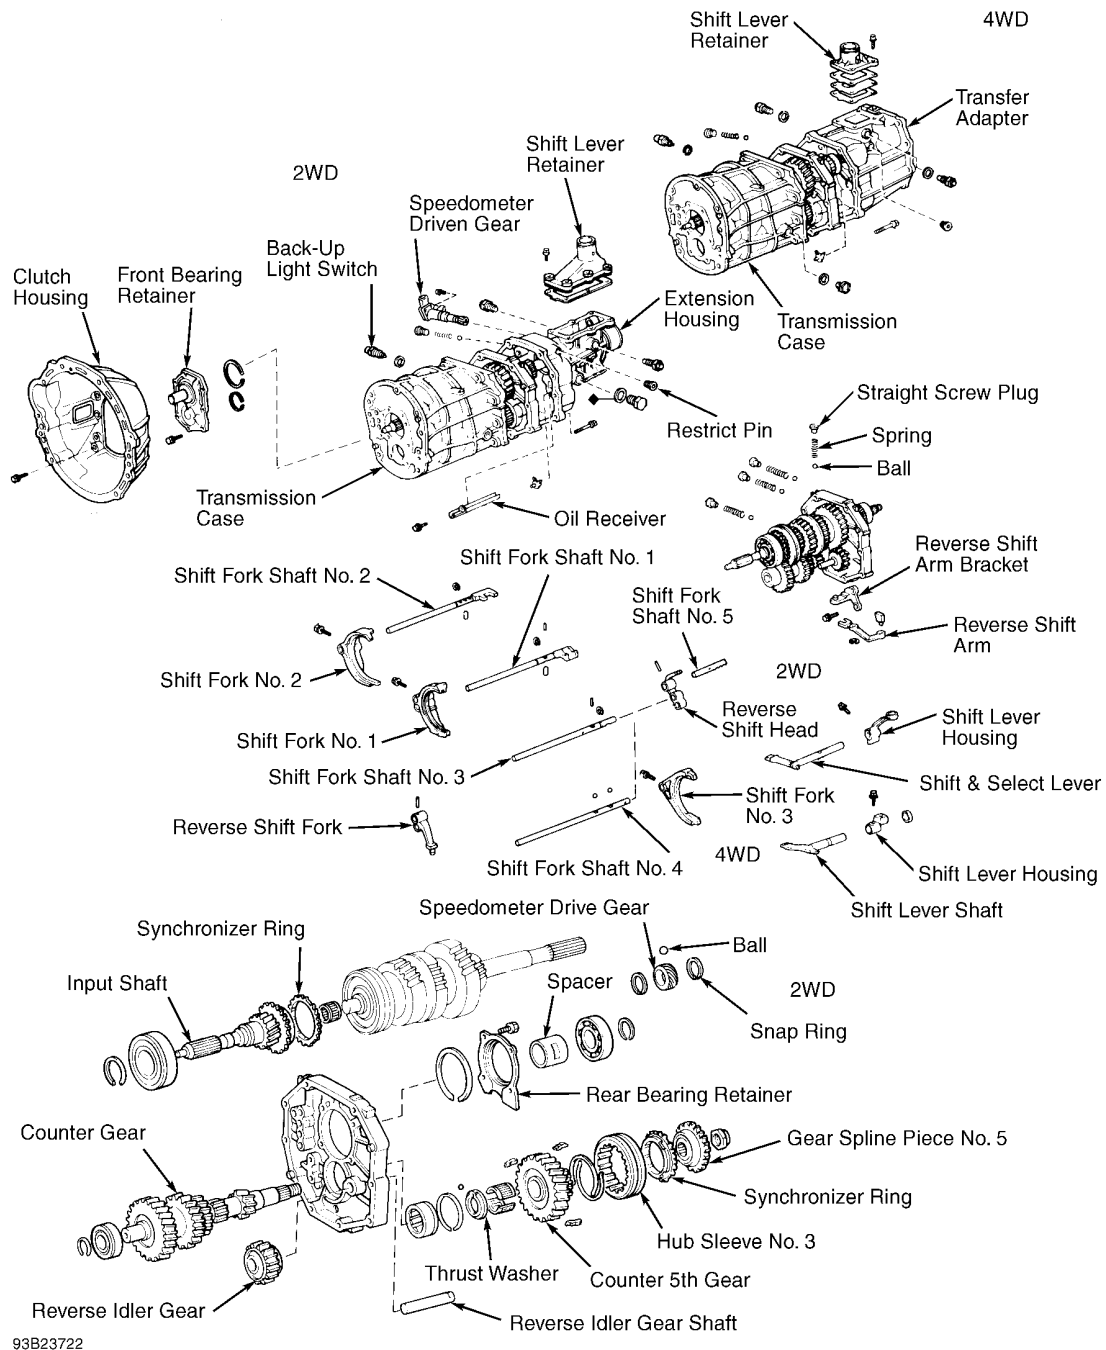

Fig. 2: Exploded View Of Transmission Assembly (1 of 2)
1. Remove back-up light switch and speedometer driven gear (2WD). Remove shift lever retainer and restrict pins. On R154 models equipped with Anti-Lock Brakes (ABS), remove rear speed sensor. On all models, remove clutch housing from transmission case. Using Torx (T40) socket, remove screw plug from extension housing or transfer adapter. Remove spring and ball using a magnet. See Fig. 2.
2. On 2WD models, remove extension housing-to-case bolts. Remove shift lever housing set bolt. Using a plastic hammer, loosen housing from case. Remove shift lever housing and shift and select lever. Remove extension housing. See Fig. 2.
6. Using Torx (T40) head socket, remove 4 screw plugs, springs and balls from side of intermediate plate. Remove shift fork set bolts. Remove 3 shift shaft snap rings. Drive out 2 roll pins from the reverse shift head and reverse shift fork. Pull out No. 5 and No. 2 shift fork shaft from intermediate plate. Remove No. 2 shift fork. Remove interlock pin from intermediate plate. See Fig. 2.
8. Pull out No. 4 shift fork shaft from intermediate plate. Remove reverse shift head and locking ball. Remove No. 3 shift fork. Remove reverse arm from reverse shift arm bracket. Remove reverse shift arm bracket. On 2WD models, remove rear speedometer drive gear snap ring. Remove speedometer gear and ball. Remove front snap ring. On 4WD models, use puller to remove sleeve from output shaft. See Fig. 2 and Fig. 5.
from intermediate plate by pulling on countershaft and tapping intermediate plate with plastic hammer. Remove input shaft with needle bearings from output shaft. Using driver, remove countershaft rear bearing from intermediate plate. See Fig. 2.